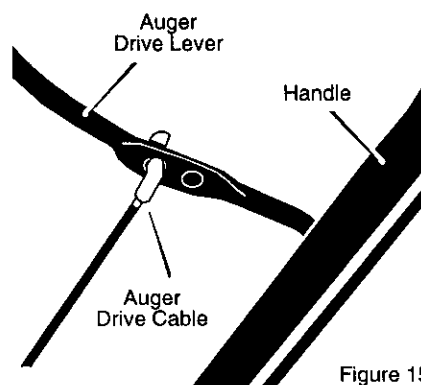

Figure 15
4. Install the **auger drive cable** in the hole shown in Figure 15.